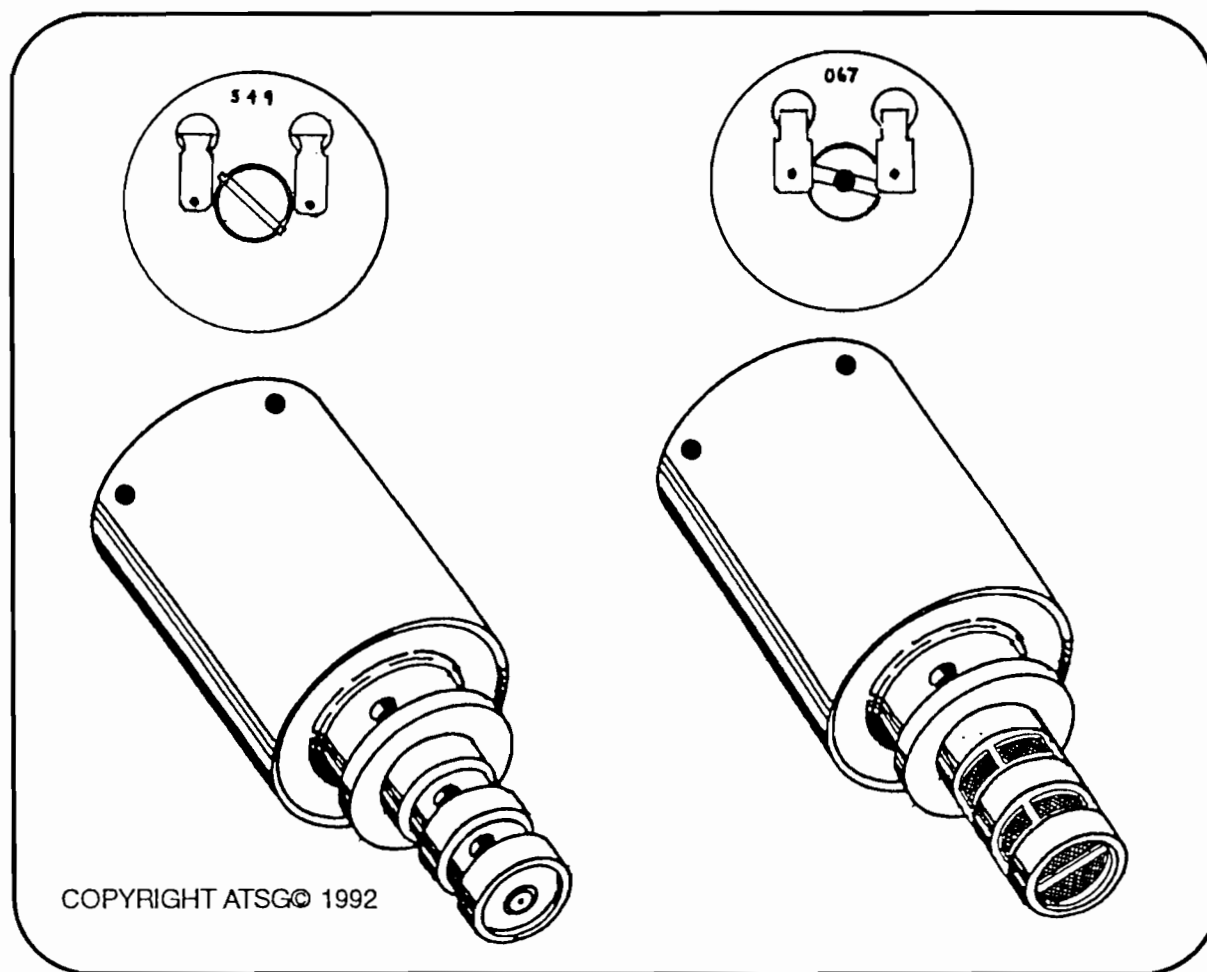

Figure 2.
**Note:** A new Pressure Regulator from BMW is just under \$600.00 and is usually available in less than two weeks. There is, however, a suitable alternative that has proved most effective. The G.M. 4L80-E Force Motor is manufactured by the same company and aside from a few minor differences does the same job. Most of the overall dimensions are the same except that the G.M. 4L80-E Force Motor uses screens in the plunger and port areas (See Figure 2). Those differences are insignificant. A new 4L80-E Force Motor will cost you about \$133.00. The G.M. part # is 8677314.